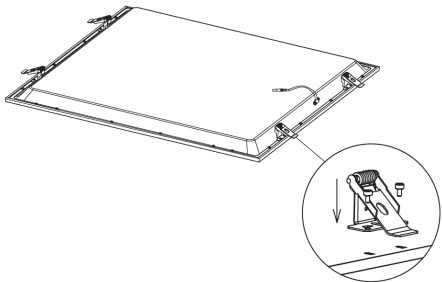

Fig. 2
- Add the 4 x spring clips (LPANRC, sold separately) to the panel (see Fig. 2)